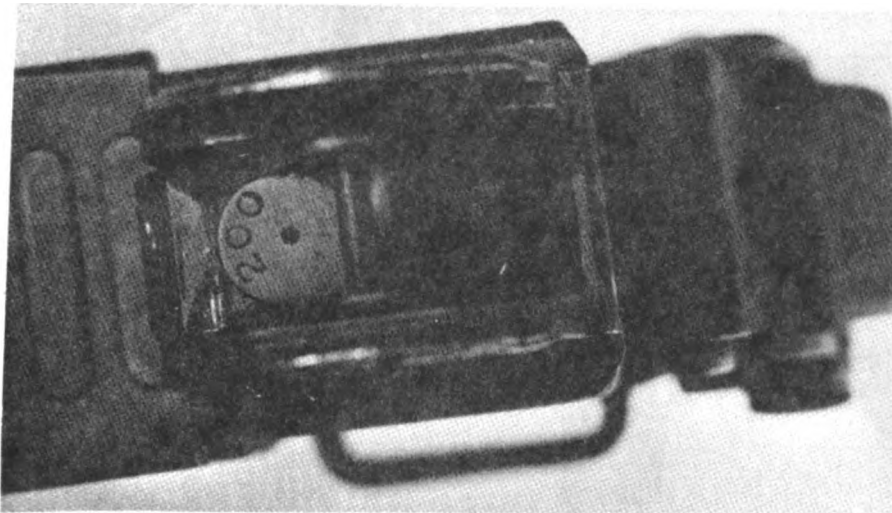

Figure 1
a. Adjust sight by flipping to specified range (100 or 200 yards). (See fig. 1.)